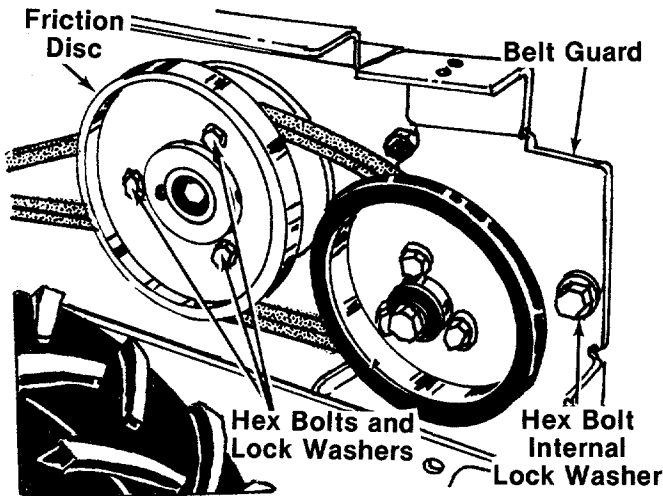

FIGURE 27.
- Place gear shift lever in neutral position. Hold friction disc with one hand. Remove three hex bolts and lock washers which hold the friction disc to the variable speed pulley. See figure 27. Lift belt off the variable speed pulley.
- Remove the hex bolt and internal lock washer which holds the belt guard to the engine. See figure 27. Remove the belt guard. Remove and replace the belt.